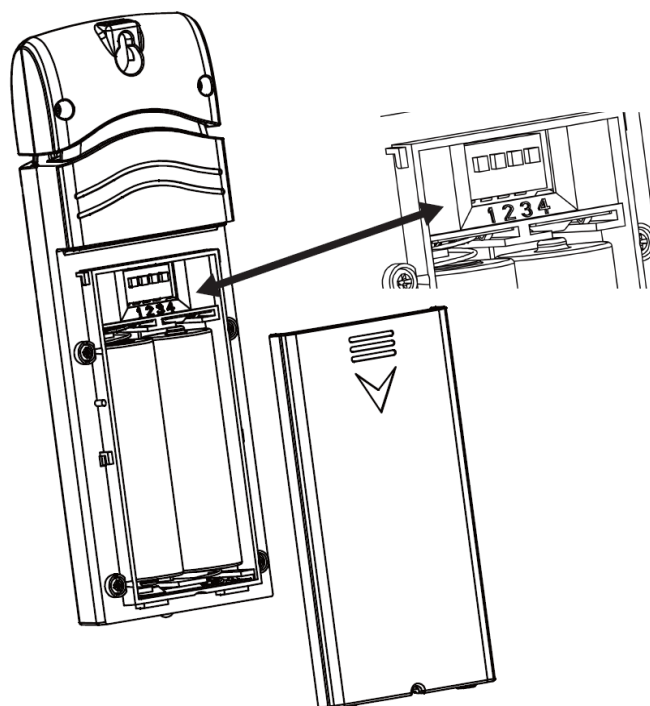

Figure 17
1. Remove the battery door on the back of the transmitter(s) by sliding down the battery door, as shown in Figure 17 .